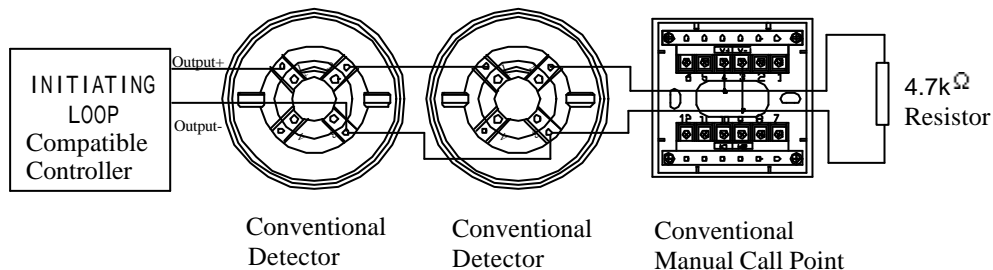

Fig. 8 System application
2. When the active end of line unit is not used in the output loop, a 4.7k Ω resistor can be connected to the end of loop. 1N5819 Diode is not connected to the detector base. System application is shown in Fig. 8.